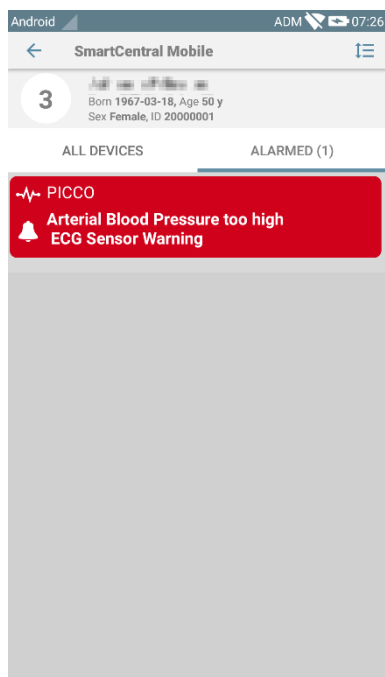

Fig 18
- Touch the notification to directly access the relevant module/patient (see an example in Fig 18; see further paragraphs for a description of the specific modules). If the alarm notification from a module is related to one patient, then by touching it the alarmed patient tab is displayed; moreover, if the alarm notification is raised for more than one patient, by touching it the list of alarmed patient is displayed.